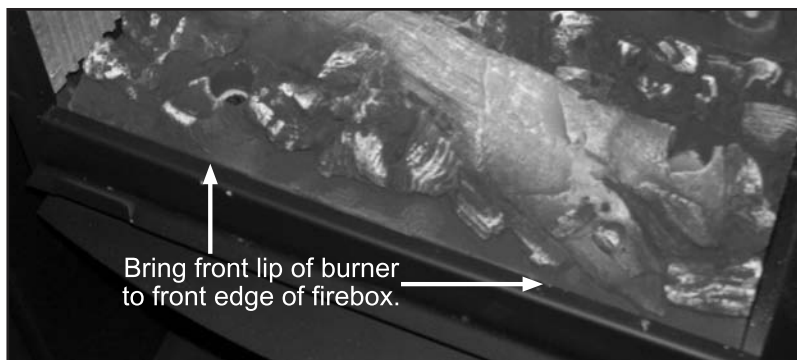

Figure 10: Align Log Set Burner With Firebox.
2. When the burner is resting in the firebox ensure that the front edge of the burner is lined up with the front lip of the firebox (see Figure 10 or 11).